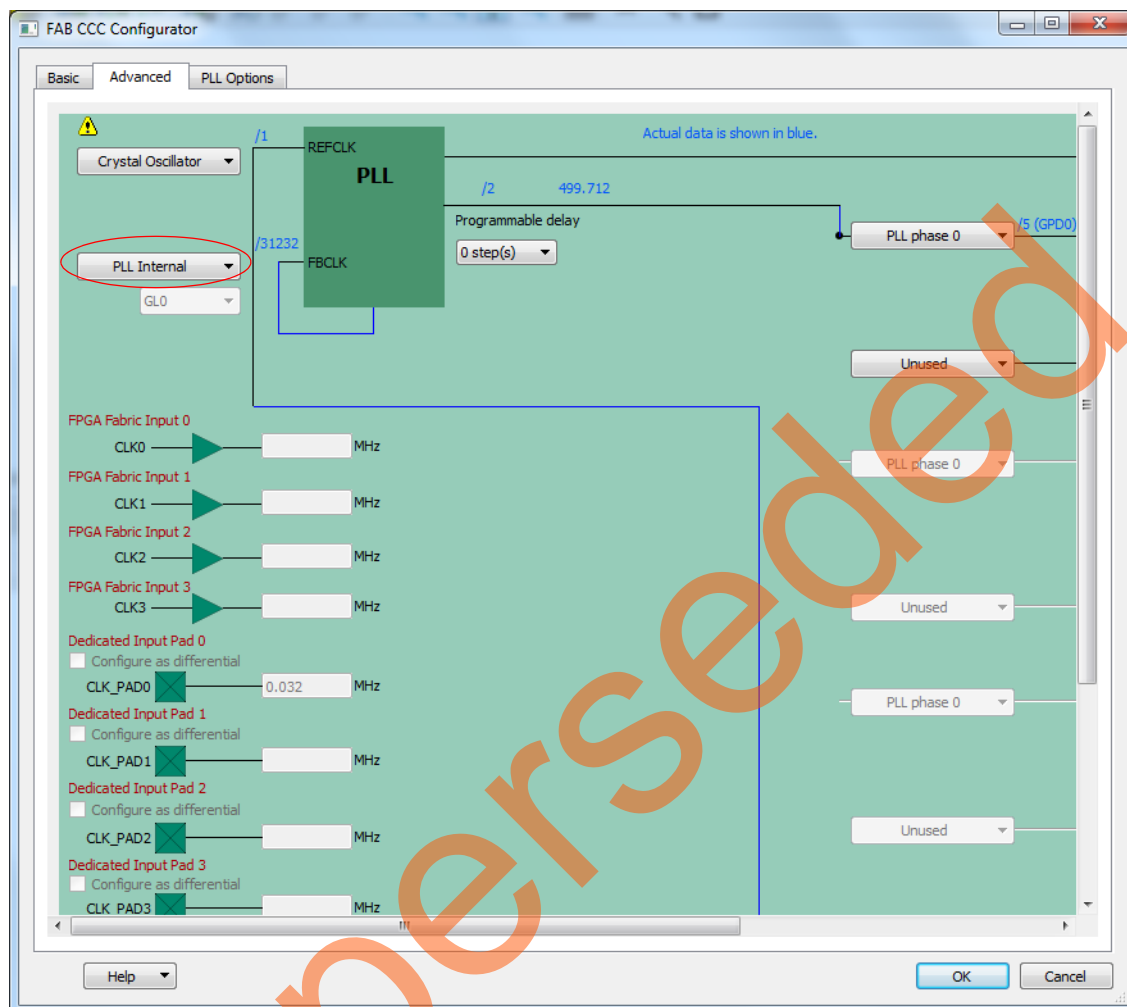

Figure 8 • Configuring PLL Feedback Source
11. Click on **Advanced** tab in the **FAB CCC Configurator** window and select **Internal > PLL Internal** from the pull-down menu as PLL feedback source, as shown in Figure 8.